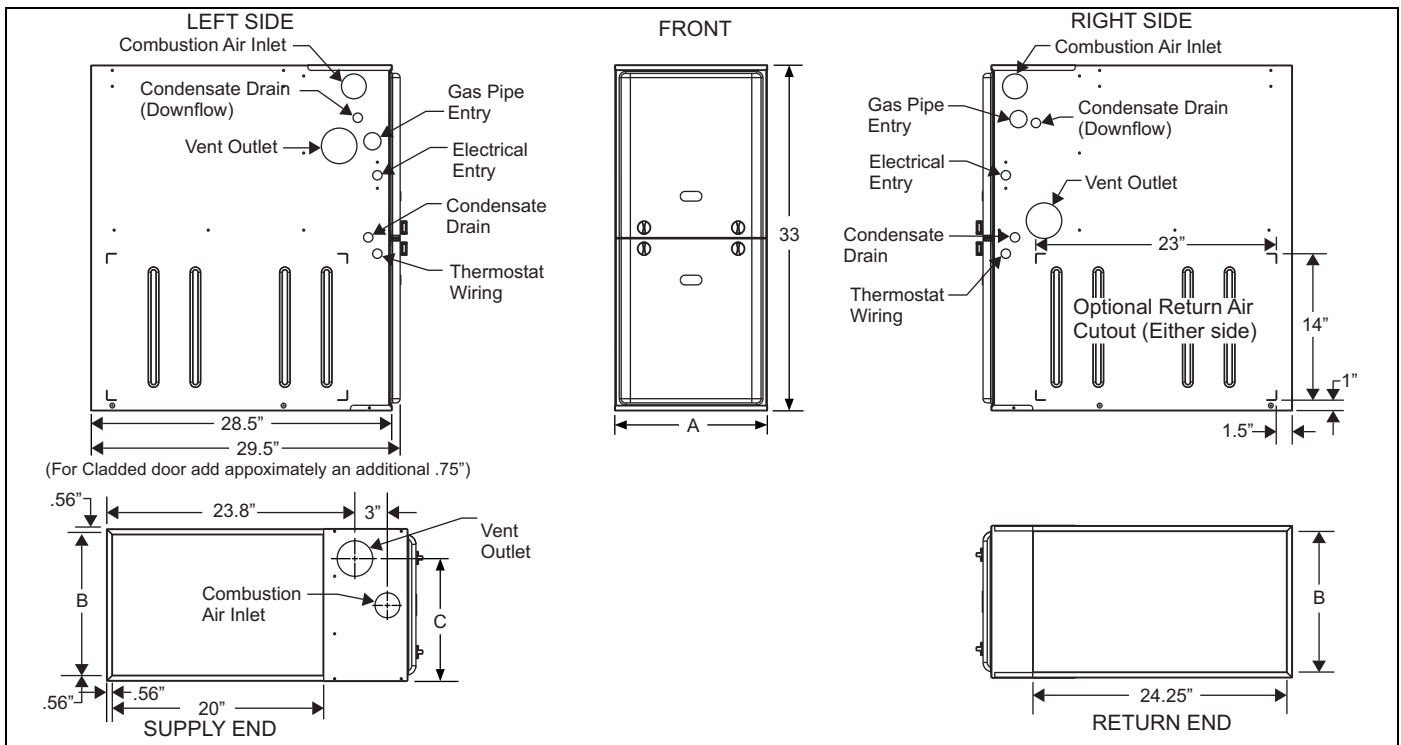

FIGURE 13: Dimensions
*Some accessories such as electronic air cleaners and pleated media may require a larger side opening. Follow the instructions supplied with that accessory for side opening requirements. Do not cut the opening larger than the dimensions for the “Optional Return Air Cutout” shown in Figure 13.*
Gas piping may be connected from either side of the furnace using any of the gas pipe entry knockouts on both sides of the furnace. Refer to Figures 13 and 16.